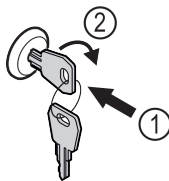

Fig. 176
- ▶ Insert the key. Fig. 176 (1)
- ▶ Turn the key clockwise by 90°. Fig. 176 (2)